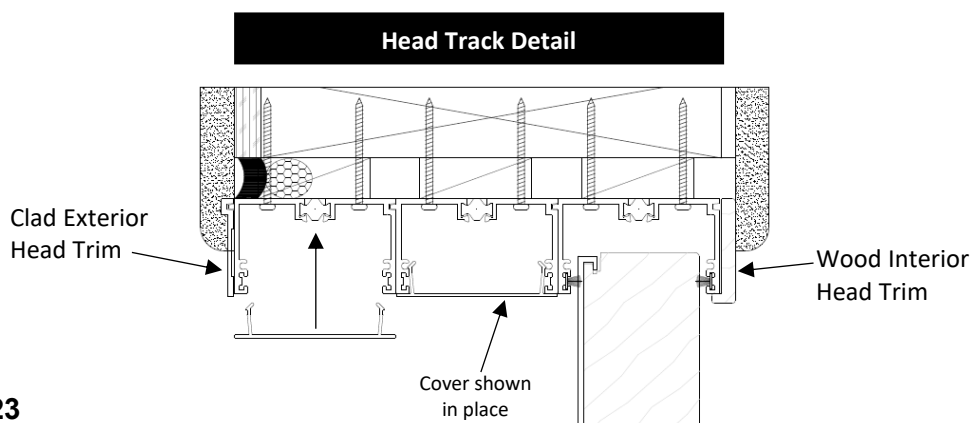

Figure 23
- 7.1 Install the head track covers by snapping it into the head tracks and the exterior/interior trim pieces (see Figure 23).